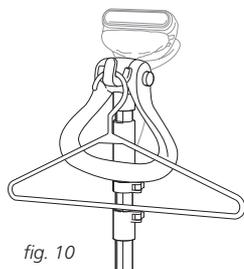

fig. 10
- 4 Hang your desired garment on the garment hook. Begin steaming the garment in an up and down motion pressing the steam nozzle on the fabric. (Fig. 10)